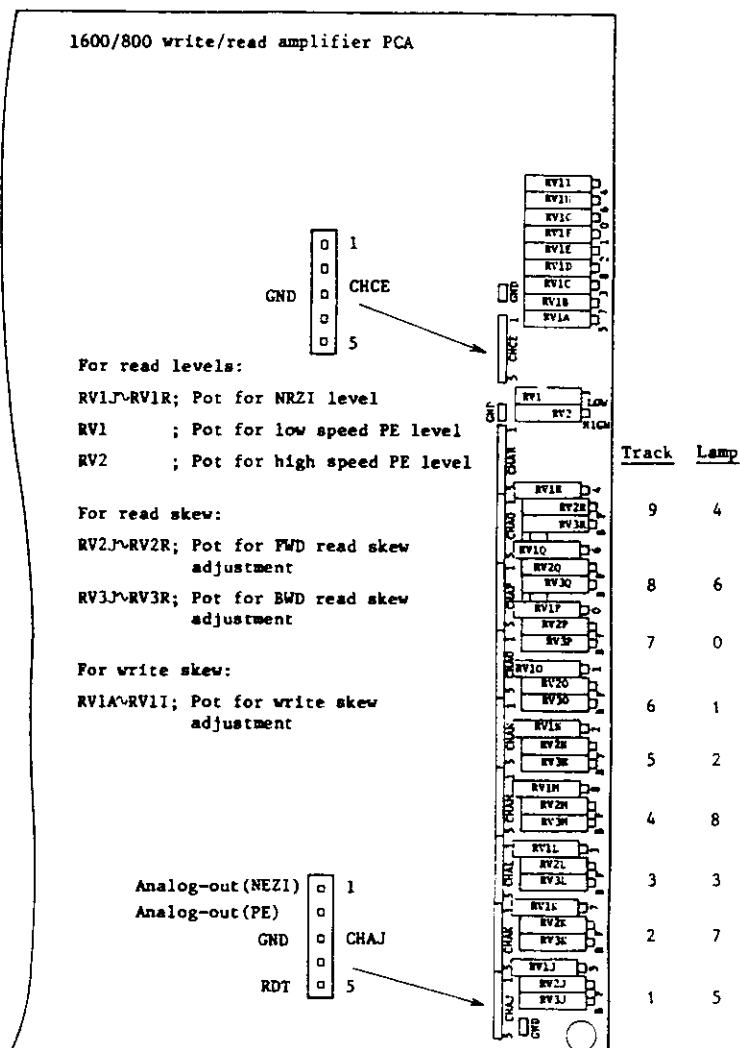

Figure K.16 Potentiometer and check terminals for lamps 0 to through 8 on the 1600/800 bpi write/read amplifier PCA
- (1) Set field tester switches S0 through S7 to \$81, and toggle the SSS switch for write 800 fci in the NRZI mode.
- (2) Adjust potentiometers RV1J through RV1R, shown in Figure K.16, so that terminals CHAJ pin 1 through CHAR pin 1 develop  $2.0 \text{ Vp-p} \pm 10\%$  against ground. Use an oscilloscope for these checks.
- (1) Set the field tester switches S0 through S7 to \$1E, and toggle the CNT switch to select the register address.
- (2) Set the field tester switches S0 through S7 to \$EC, and toggle the SSS switch to set the tape to the high-speed mode.
- (3) Set the field tester switches S0 through S7 to \$FA, and toggle the SSS switch to set the slice level to 100%.
- (4) Set the field tester switches S0 through S7 to \$89, and toggle the SSS switch for write, high-speed, phase encode mode.
- (5) Adjust potentiometer RV2 shown in Figure K.16 so that four or more of lamps 0 through 8 are lit. After adjustment, toggle the SSS switch to stop the tape.
- (6) Set the field tester switches S0 through S7 to \$F5, and toggle the SSS switch to set the slice level to 80%.
- (7) Set the field tester switches S0 through S7 to \$89, and toggle the SSS switch for write, high-speed, phase encode mode. Lamps 0 through 8 should be lit.
- (8) Toggle the SSS switch to stop the tape.
- (9) Set the field tester switches S0 through S7 to \$F7, and toggle the SSS switch to set the slice level to 125%.
- (10) Set the field tester switches S0 through S7 to \$89, and toggle the SSS switch for write, high-speed, phase encode mode. Lamps 0 through 8 should be off.
- (11) Toggle the SSS switch to stop the tape.
See Figure K.16 (K0140) for location of potentiometers and check terminals.
- (1) Load a good quality tape (SRM 3200 or equivalent).
- (2) Write 800 fci in the NRZI mode. Set the field tester switches S0 through S7 to \$89, and toggle the SSS switch.
- (3) Observe the deskew clock pulse width for track 5 of the write circuit at check terminal CHCE, pin 1. Check that the clock pulse width meets the value shown in Table K.6. Adjust the pulse width for the specified value with RV1E. See Figure K.16 (K0140) for locations of potentiometers and check terminals.